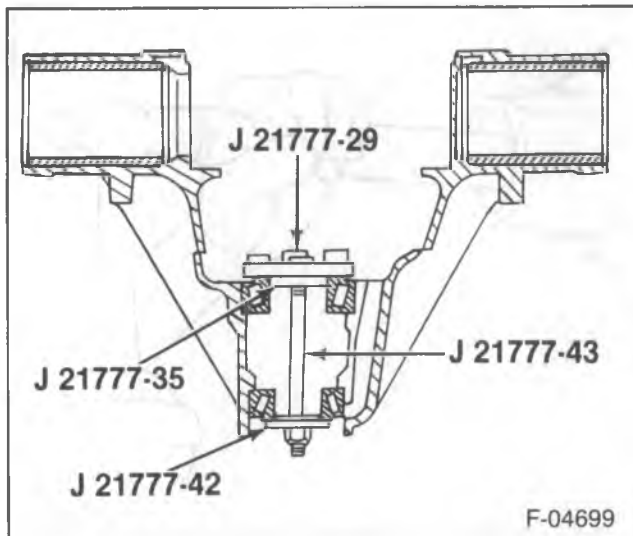

Figure 11—Gage Plate Tools
3. Place the bearings (39) and (5) into the pinion bearing cups.
4. Install J 21777-35, J 21777-42, J 21777-29 and J 21777-43 to the pinion bore (figure 11).